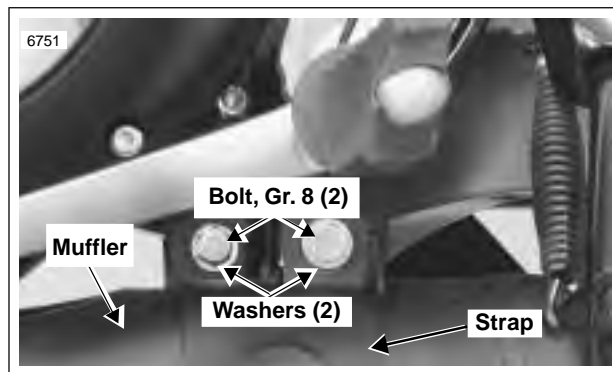

Figure 2-88. Rear Muffler Mounts
2. See Figure 2-88. Remove bolts, lockwashers and washers securing muffler to Z-bracket.
6. See Figure 2-88. Position muffler and install to rear mounting support and weldnuts in rear muffler straps with two sets of bolts, washers and locknuts. Tighten to 22-24 ft-lbs (30-33 Nm).